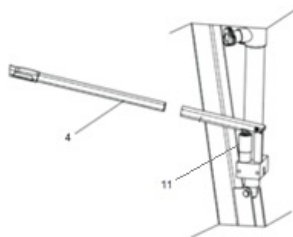

Fig. 6
1. Pull out the knob and insert the handle (4 – Fig. 6) into the cylinder (11 – Fig. 6), as shown below.